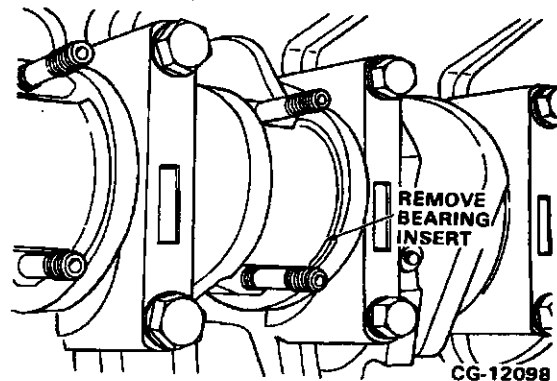

Figure 6.10. Remove Bearing Insert
7. Push the connecting rod up slightly to release pressure on the bearing insert. Slide the insert around the crankshaft journal and remove. Refer to Figure 6.10.